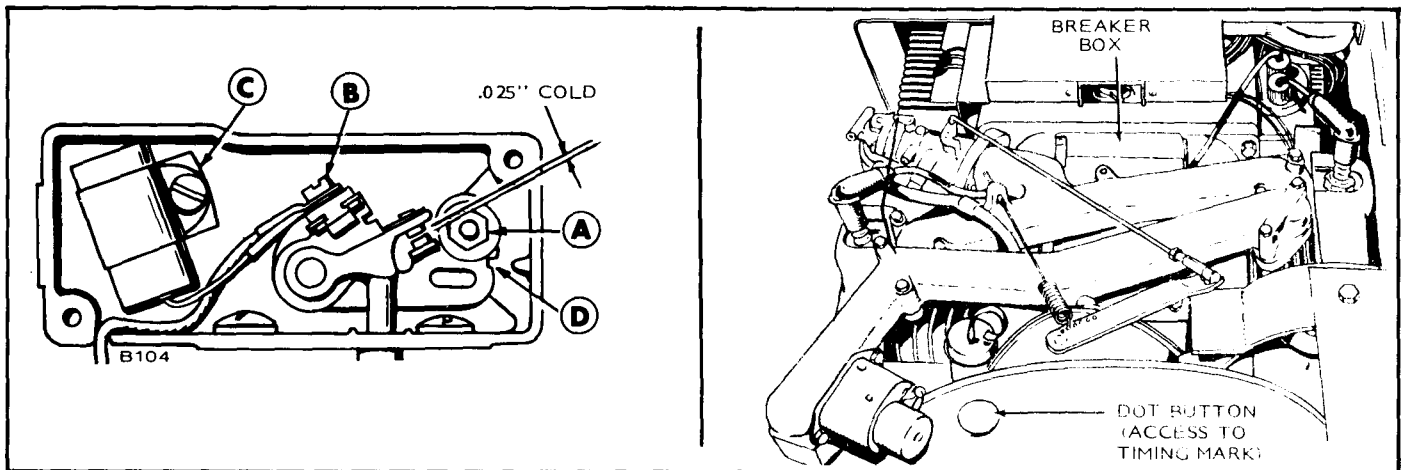

FIGURE 35. BREAKER BOX AND TIMING ACCESS HOLE
3. Refer to Figure 35. Remove mounting nut (A) and pull the points out of the box just far enough so screw (B) can be removed and leads disconnected.
4. Remove screw (C) and replace condenser with a new one.
5. Replace points with a new set but do not completely tighten mounting nut (A).
8. Using a screwdriver inserted in notch (D) on the right side of points, turn points until gap measures .025 inch with a flat thickness gauge. (Be sure feeler is clean.) Tighten mounting screw and recheck gap.